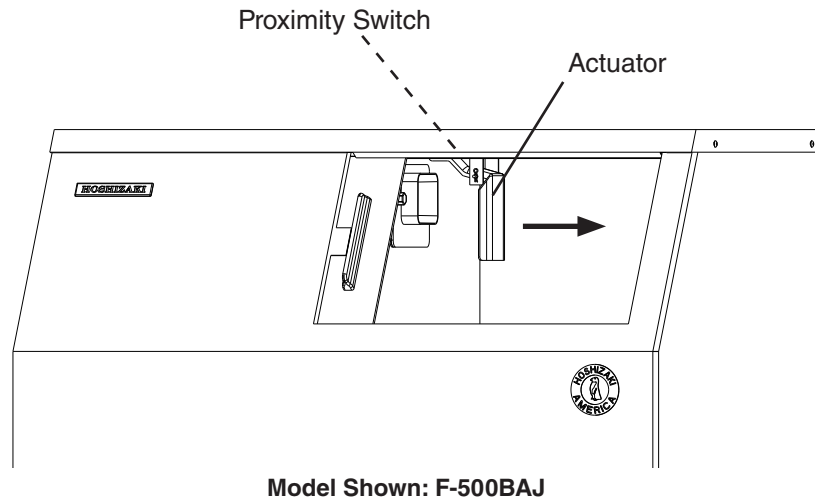

Fig. 7
- 6) Once the "COMP" LED is on and compressor is energized, press the actuator paddle located in the ice storage bin (actuator paddle engaged). See Fig. 7.